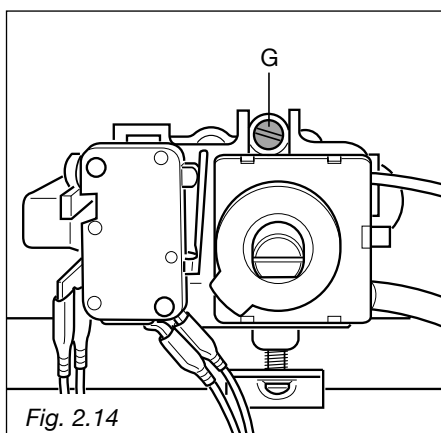

Fig. 2.14
- Remove the knob and unscrew the by-pass screw "G" (fig. 2.14) about three times by passing a small flat screwdriver (Ø 3 mm blade, 100 mm length) through the panel opening.
- After having removed the knob again and being very careful not to turn the tap rod, slowly screw the by-pass screws "G" (fig. 2.14) until you obtain a flame of 3-4 mm in height.